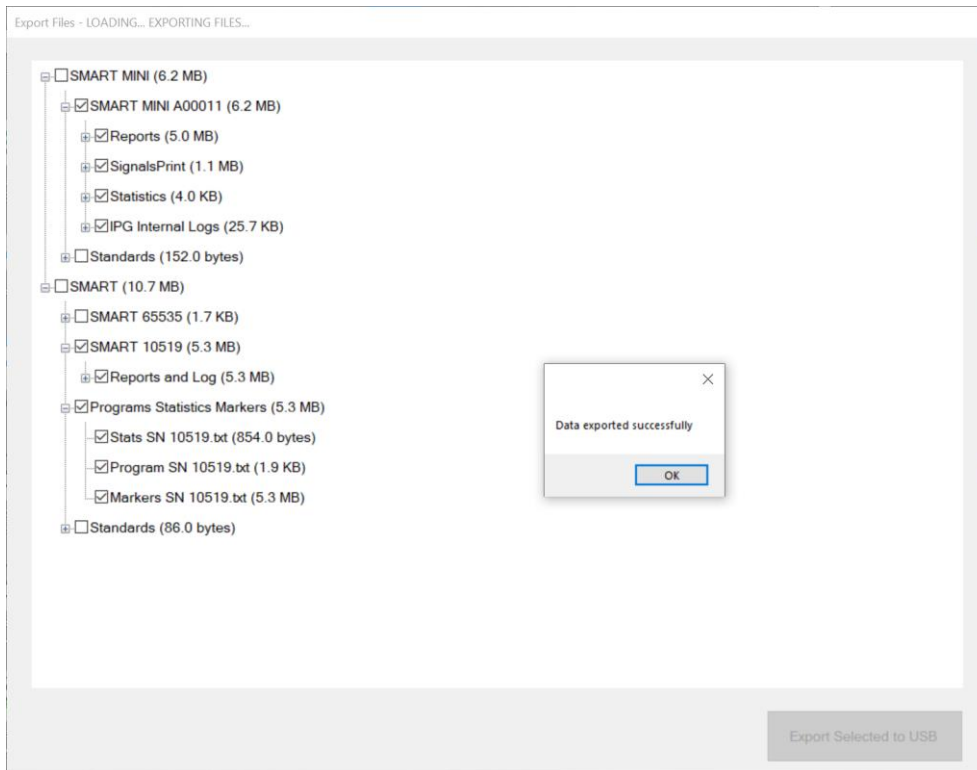

Figure 81: Completion of Successful File Exportation
7. The message “Data exported successfully” will appear when data exportation has been completed. **See Figure 81.**